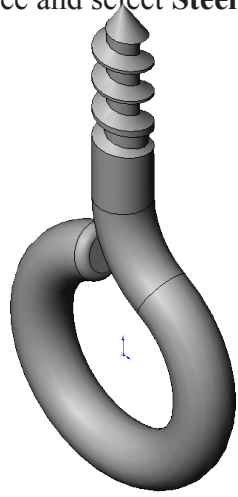
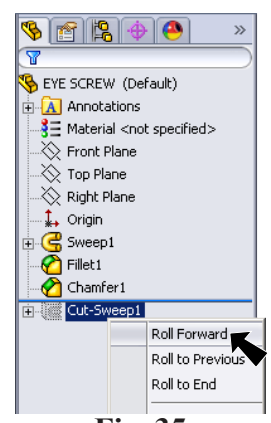

Fig. 36
Fig. 35
Step 5. Roll forward to display the Cut-Sweep. To roll forward, **right click** Cut-Sweep in the Feature Manager and click **Roll Forward** in the menu, **Fig. 35** and **Fig. 36**.